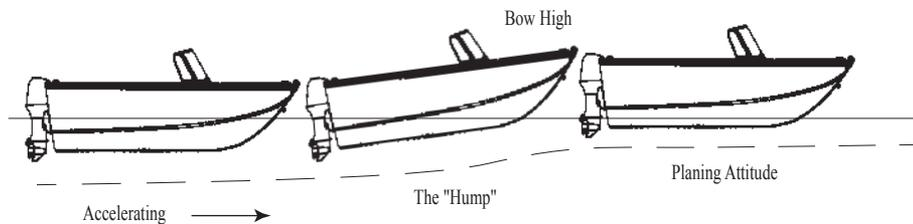

FIGURE 8-3 PLANING
Before bringing the boat “on-plane,” check the entire area to make sure you have a clear, safe path. As you throttle up and accelerate, the boat’s trim angle changes, causing the bow to ride high (Figure 8-3). This trim angle is sometimes referred to as the “hump.” As the boat continues to accelerate, the boat levels out to its planing attitude. A few seconds at full throttle should get the boat over the hump and into its planing attitude; then throttle down to cruising speed. This also improves fuel efficiency.
3. In the case of low or heavy bow attitude, the boat tends to "plow" (Figure 8-3). The outboard is trimmed too far down (in). Trim the outboard up (out) to correct this situation.